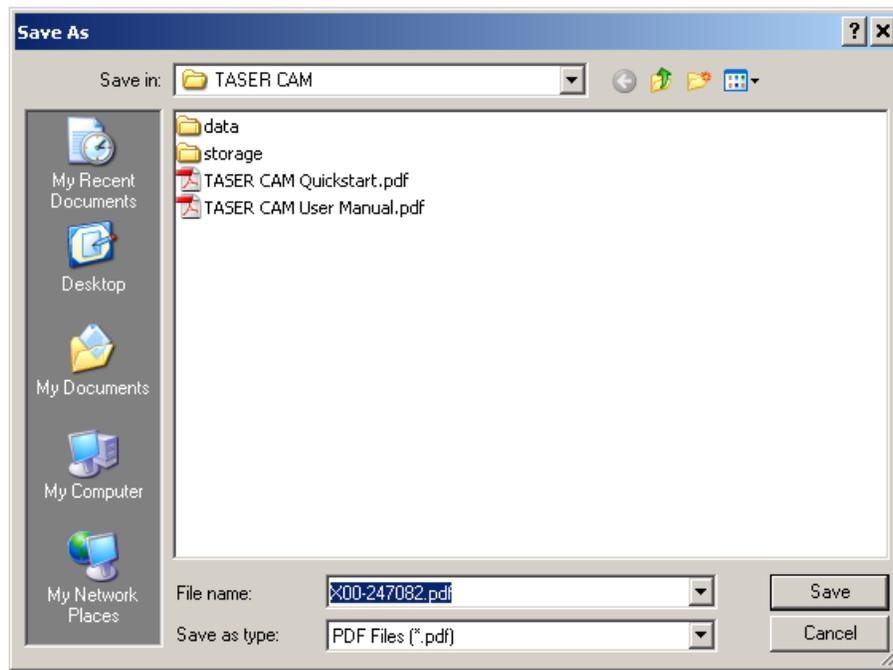

Figure 26
20. To generate a report of the firing records for the X26, click the **Generate Report** link. You will be prompted for a location to save the firing report (Figure 26).